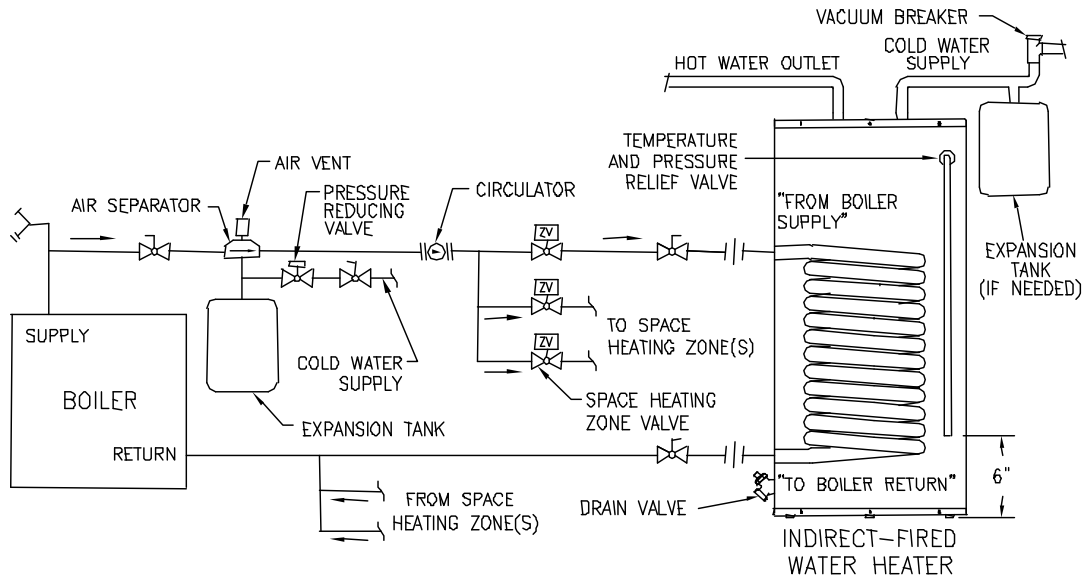

Figure 2 - Water Boiler Piping with Zone Valves
1. For a space heating system that utilizes ZONE VALVES, refer to Figure 2. The indirect-fired water heater connection labeled “FROM BOILER SUPPLY” should be piped to the boiler supply piping. Mount the circulator making sure the flow arrow points toward the water heater. The use of shut-off valves and unions are recommended for future service convenience. The use of an air separator and vent is recommended to eliminate air in the system. Pipe and fittings between the boiler and indirect-fired water heater must be $\frac{3}{4}$ ” diameter or larger.